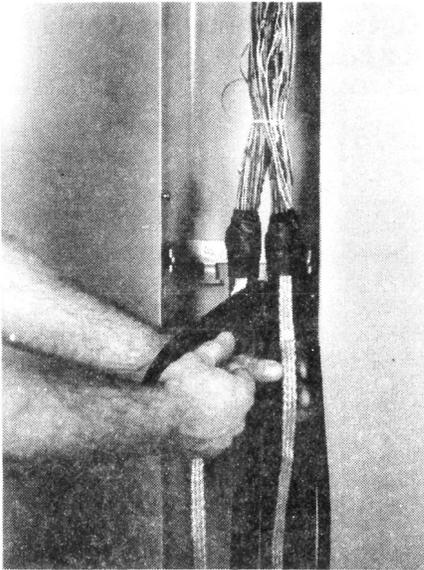

Fig. 11 — Placing S-1061 In Between Cables
5.10 Place the “S” configuration between the two main cables as shown in Fig. 11.